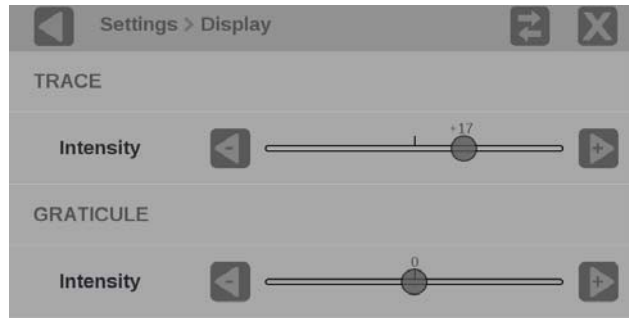

Figure 71: Trace and graticule intensity sliders
3. Use the ➡️ icon to increase intensity or the ⬅️ icon to decrease intensity of the trace or graticules. (See Figure 71.)